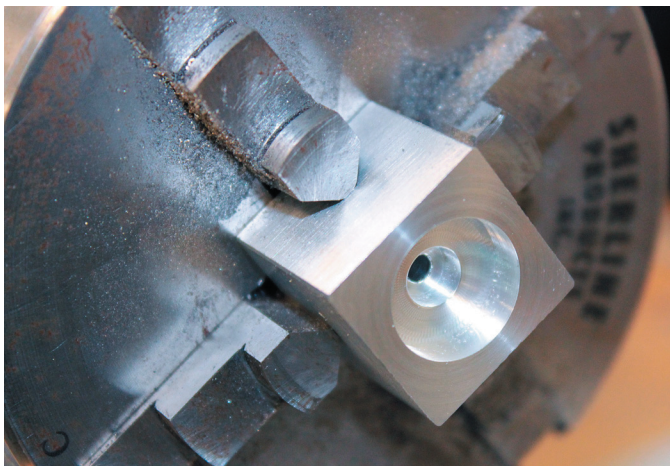

Figure 5—The second hole is bored to .540" diameter and .163" deep.
3. Rough and finish bore the .540" diameter x .163" deep on all sides. (See Figure 5.)